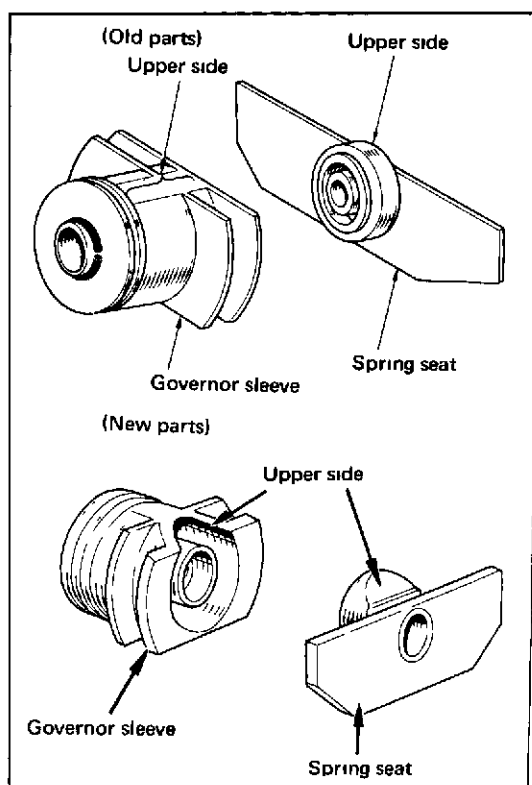

Fig. 3-175 Governor Sleeve & Spring Seat
g. When installing the governor sleeve assy and spring seat onto the governor shaft, assemble as per Fig 3-175, but do not mistake the vertical positions.